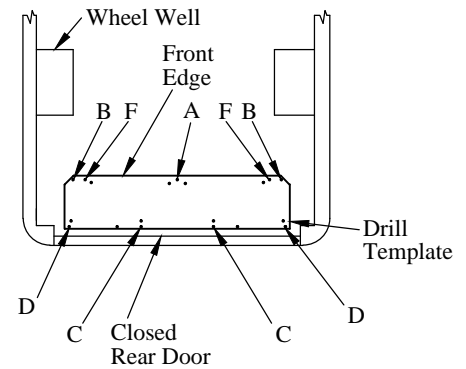

Figure 6: Drilling location (top view).
**14. Drill** 3/8" holes in nine (9) locations in the template. Drill "A", "B", "C", "D", and "F" locations only, skip all others (Figure 6).